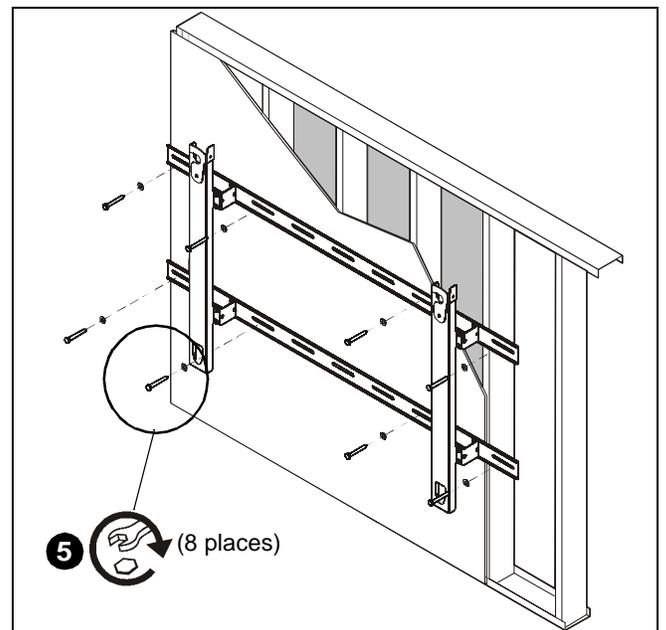

Figure 4
5. Secure mount to studs using 5/16 x 2-1/2" lag screws [not included] and 5/16" flat washers [not included]. (See Figure 4)